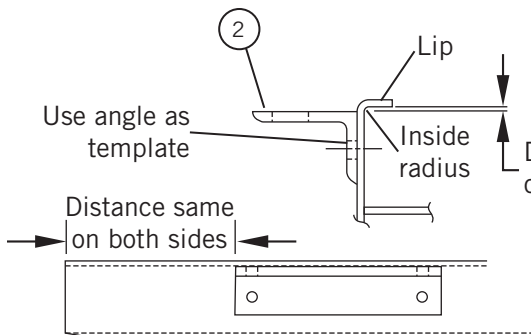

Figure 6-1
- Figure 6-1.** Hold mounting bracket (2) up to the cab shield. With angles as far forward as possible, and level with top edge of cab shield, trace through holes with permanent marker. Repeat on other side of cab shield.